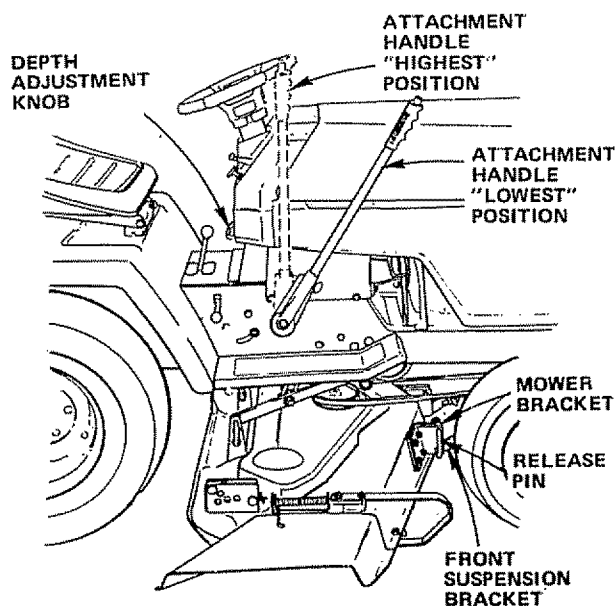

FIGURE 12
3. Slide Front Suspension Brackets into Mower Brackets. Retain with Release Pins (Fig. 12). Turn Depth Adjustment Knob counterclockwise (⤿) until it stops. Push Attachment Handle forward to lower mower to ground.
6. Turn Depth Adjustment Knob (Fig. 12) clockwise (⤿) to remove slack from Mower Suspension.